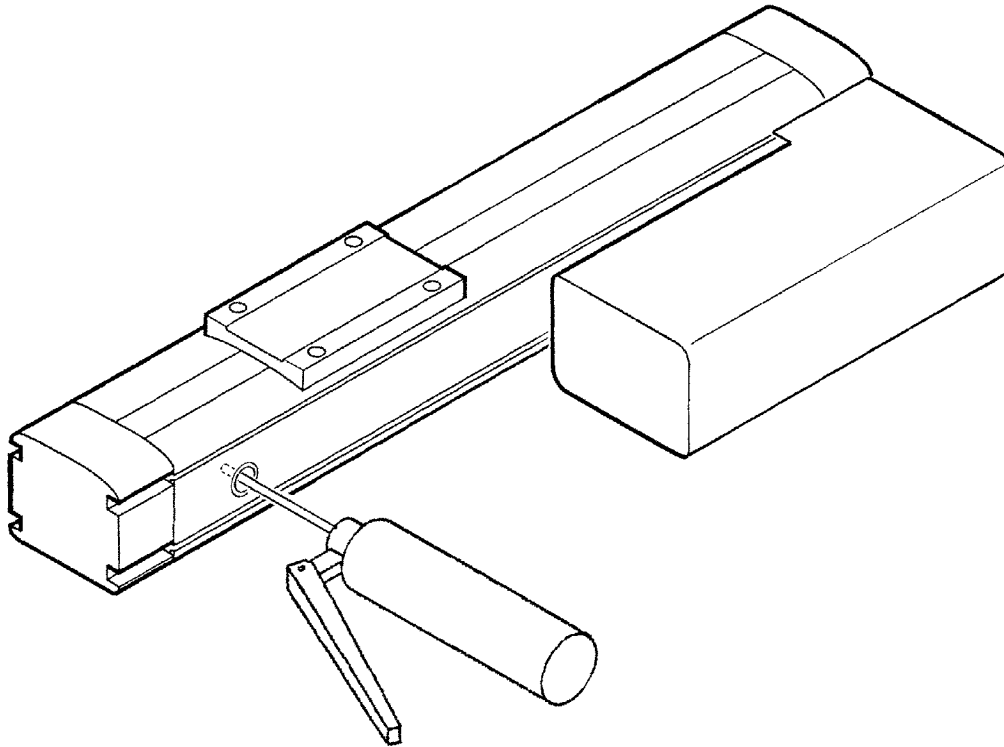

Figure 7-4. Greasing an S-Type Module
3. Locate the grease nipple inside the frame, and deposit approximately 2 cc of grease with a grease gun (Figure 7-4).